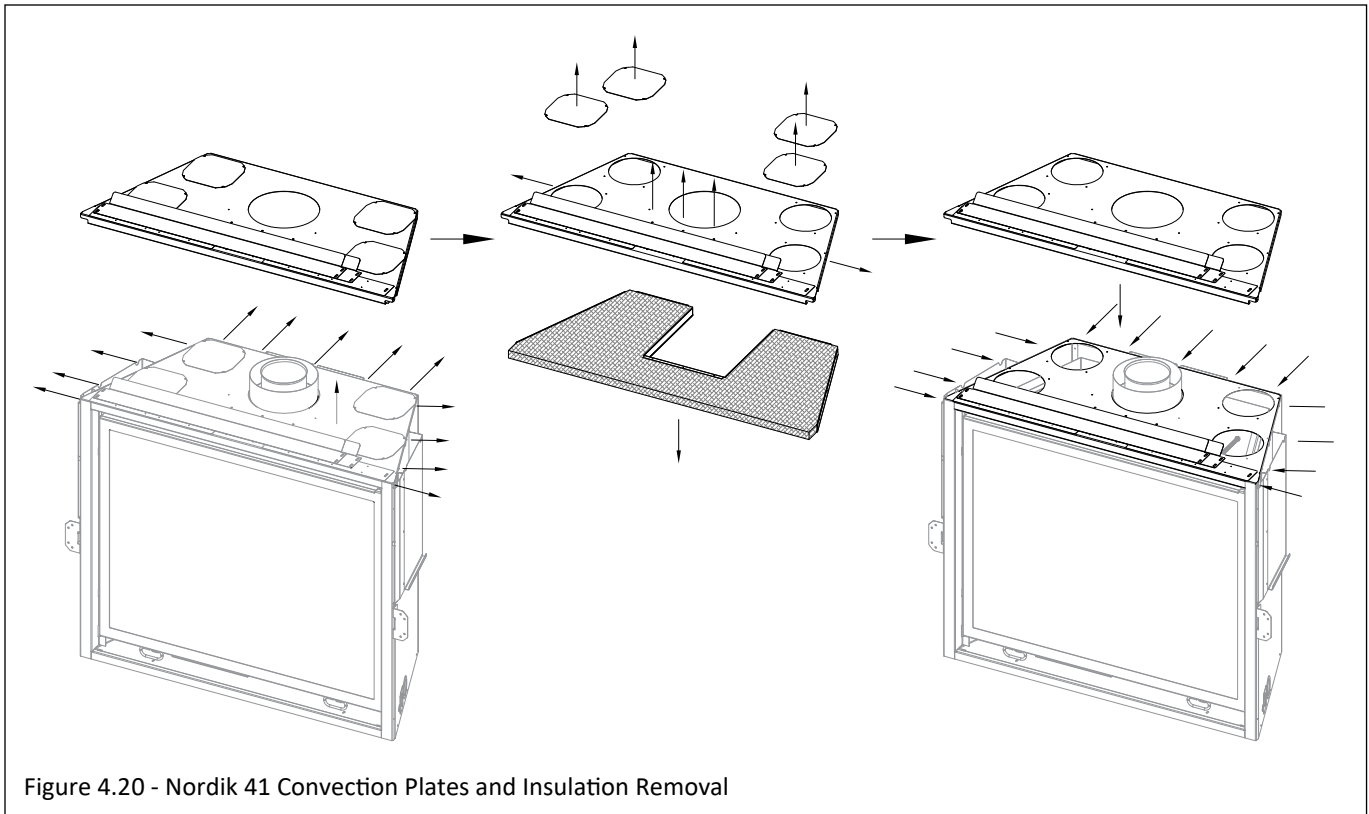
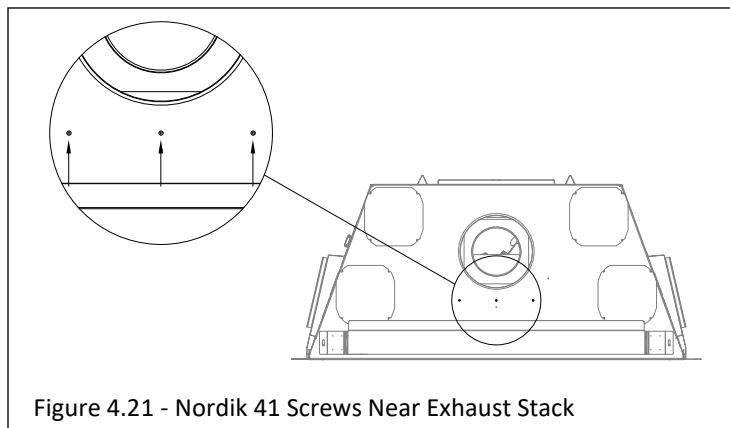

Figure 4.20 - Nordik 41 Convection Plates and Insulation Removal
Figure 4.21 - Nordik 41 Screws Near Exhaust Stack
1. Remove the (13) sheet metal screws that secure the top outer shell assembly. Pull this assembly straight up around the exhaust stack to remove it from the appliance. See the first image in Figure 4.20.
2. Remove the (4) cover plates where each cover plate is secured with (4) sheet metal screws. See the second image in Figure 4.20. Discard these cover plates.
3. Remove (3) sheet metal screws from the top of the assembly (see close up in Figure 4.21) and (2) sheet metal screws on the side of the assembly (one screw on each side shown in the second image of Figure 4.20). You are now able to separate the two sections of the top outer shell assembly. Remove and discard both the insulation and the bottom section of the top assembly. Additionally discard the (4) cover plates shown in the second image of Figure 4.20.
4. Reinstall the top outer shell assembly on the appliance with the previously removed (13) sheet metal screws.